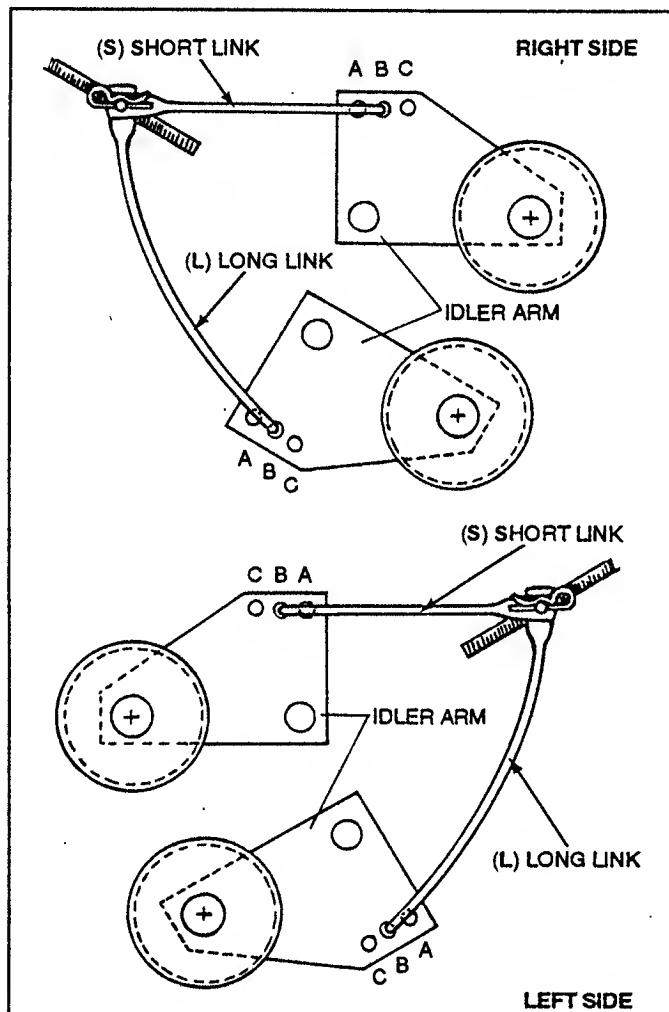

FIGURE 29
2. After adjusting the handle height, reposition the traction links as shown in HANDLEBAR / TRACTION LINK CHART and Figure 29.